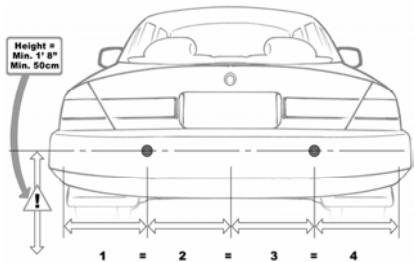
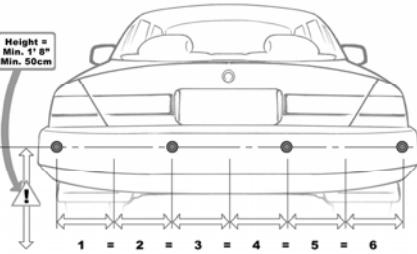

Figure 1 (2 sensors)
Figure 2 (4 Sensors)
- b. Divide the bumper as shown in Figure 1 for a two sensor install, or as shown in Figure 2 for a four sensor install.
- c. Install the sensors equally from the center of the bumper as shown in Figure 1 and Figure 2.